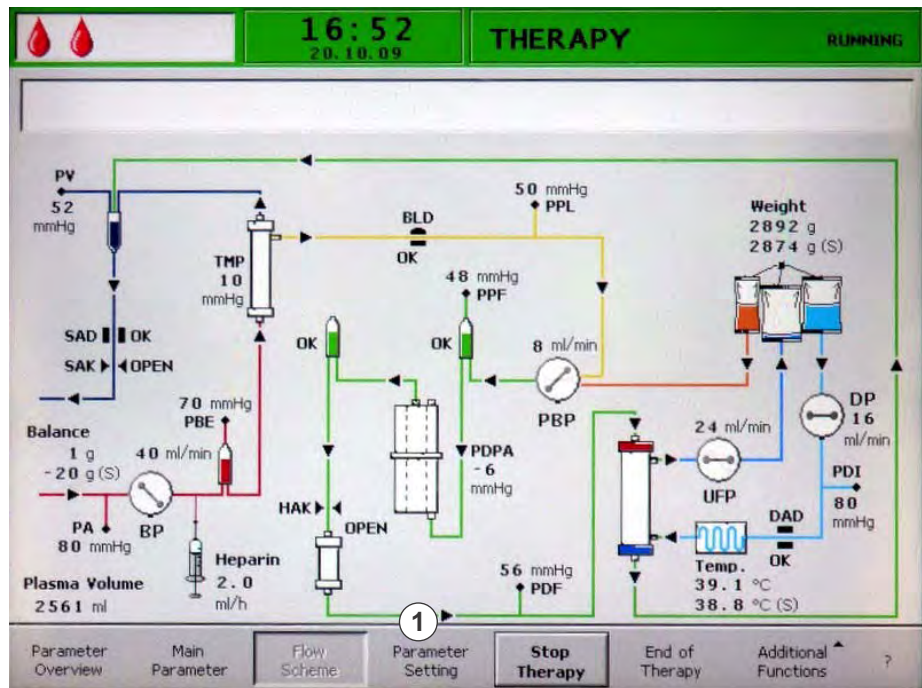

Fig. 2-24 *Parameter Setting* item in the *Flow Scheme* screen
↳ The *Flow Scheme* screen (Fig. 2-24) appears.
2. Use rotary knob to select *Parameter Setting* item (Fig. 2-24, ①) in menu bar and press *Enter* key.